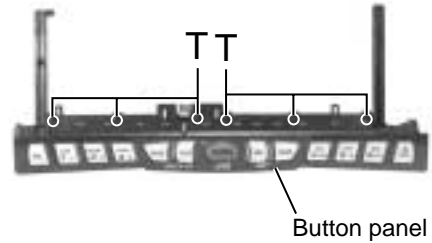

Fig.19
■ Removing the operation switch board (See Fig.19 and 20)